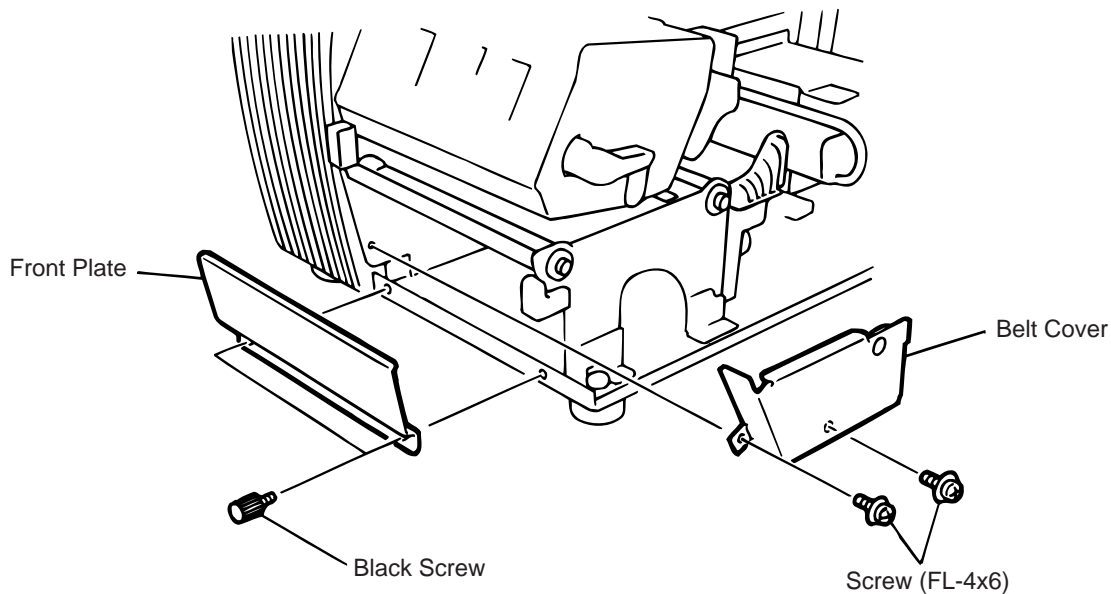

Fig. 2-6
- 1) Remove the front plate and belt cover. (See Fig. 2-6.)